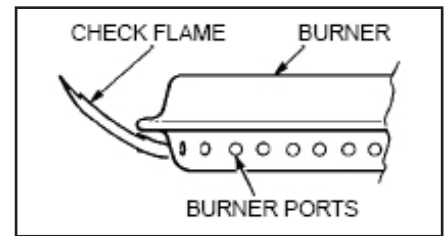

Fig. 7
- All the ports on the burner should show a 1" (2.5cm) flame on "Hi" setting. (Fig. 7)